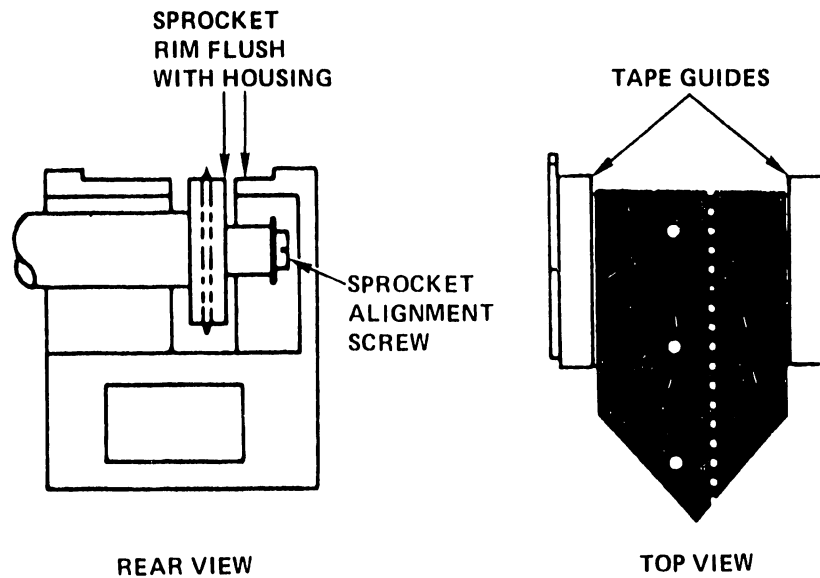

Figure 5-56. VFU Sprocket Adjustments
3. With the cover open and format tape in place, check that the tape is centered within the indented surface of the phototransistor housing. See Figure 5-56.